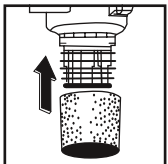

Fig. 2
2. Remove the cartridge from the filter and carefully install the foam sleeve over the filter cage. Set the power head back over the container (Fig. 2)